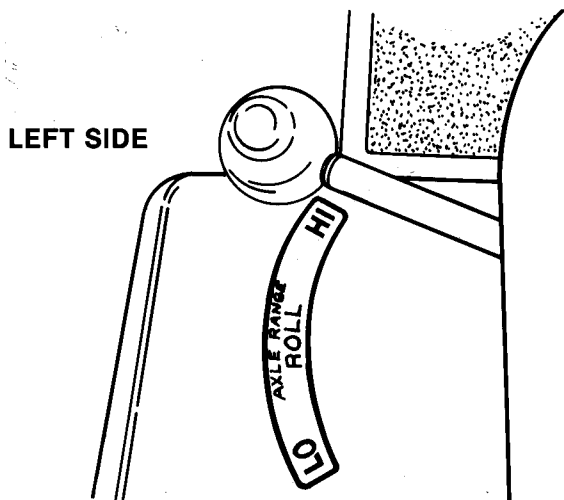

FIG. 4 - AXLE RANGE SELECTOR ON LEFT
1. Before releasing the Clutch/Brake pedal, shift the axle into HI (fast) or LO (slow) range with the selector located to the left of the operator's seat (figure 4). NOTE: To avoid gear damage, DO NOT shift axle range with machine in motion! It may be necessary to rock tractor slightly forward or reverse to shift.